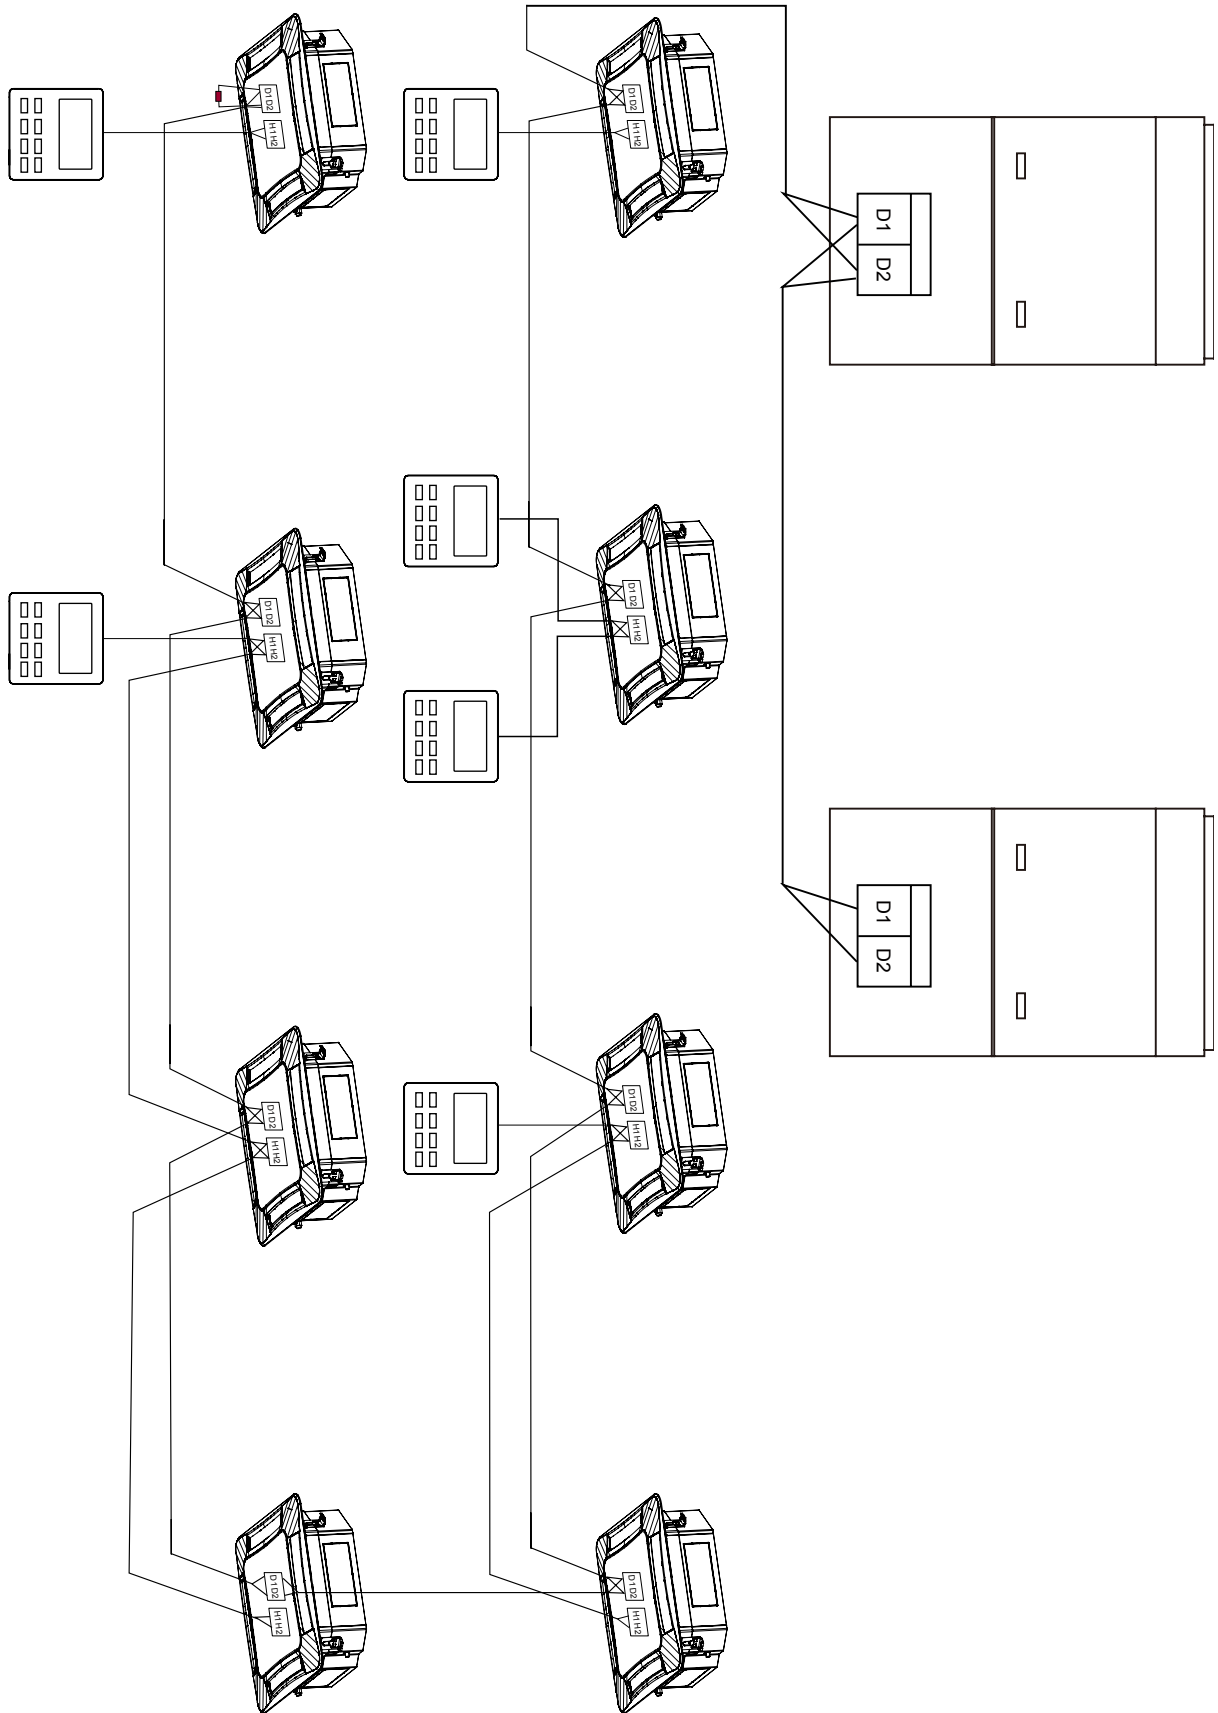

Fig. 5.5
- (1) Communication wire of indoor unit to outdoor unit (or indoor unit) is connected to D1,D2.
- (2) Wired controller is connected to H1,H2.
- (3) One indoor unit can connect two wired controllers. One must be set as master and on as a slave.
- (4) One wired controller can control 16 indoor units in maximum at the same time (as shown in Fig. 5.5).